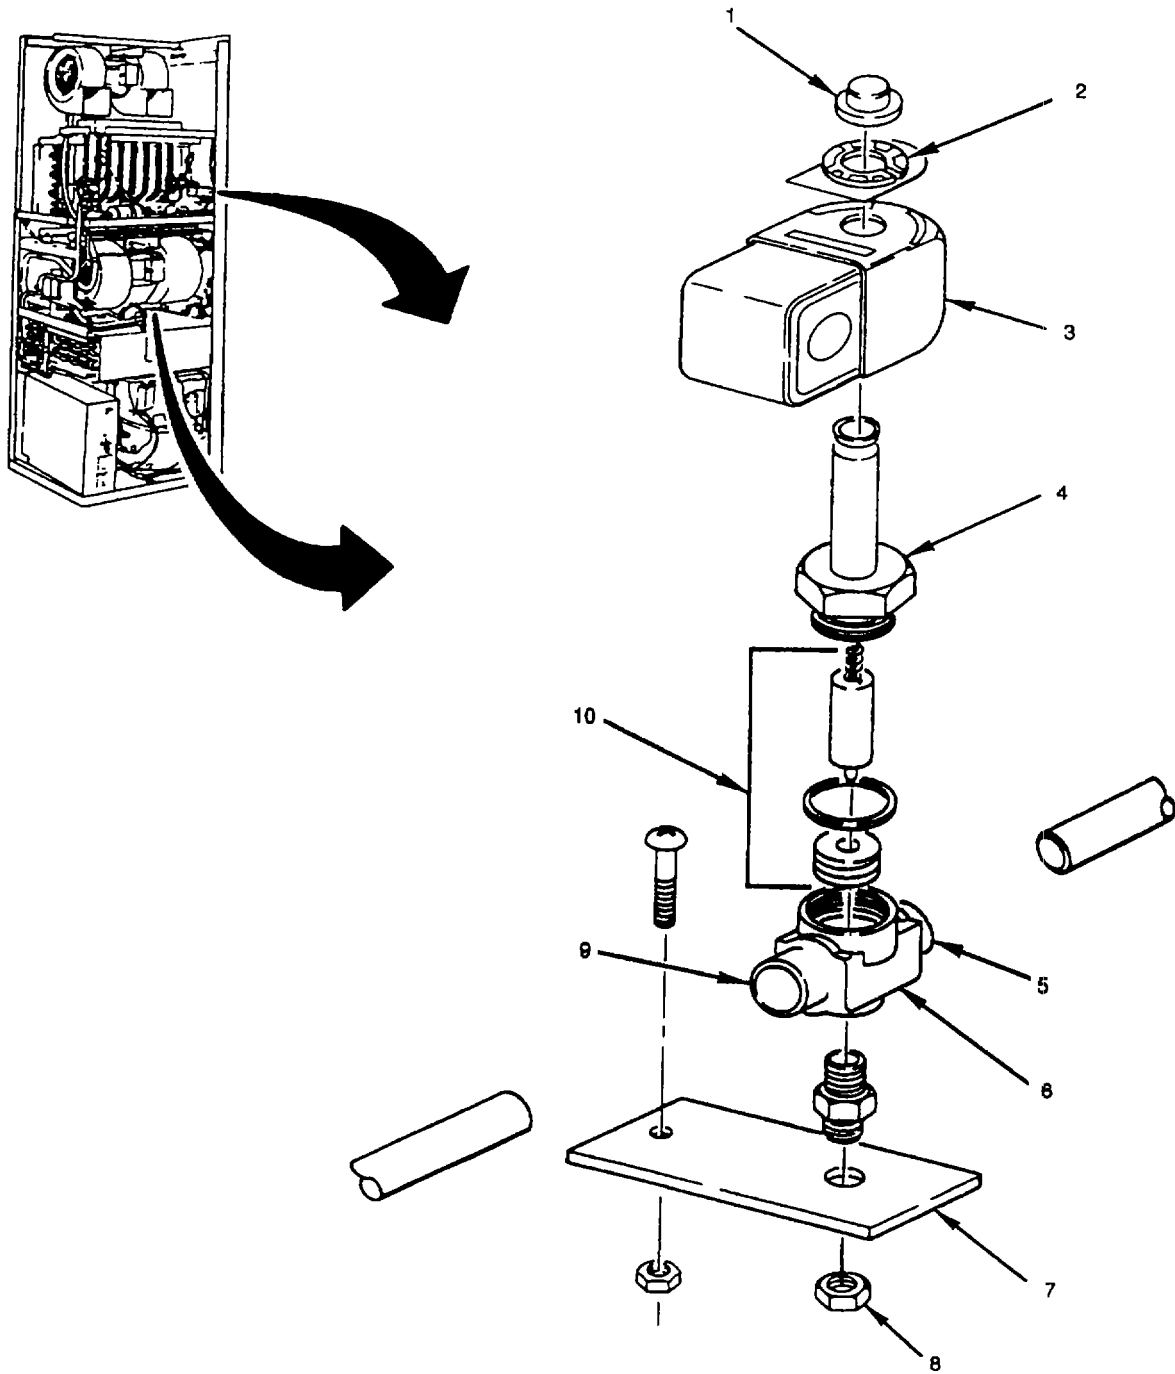

Figure 5-20. Solenoid Valves (L1 and L2)
- (1) Disconnect air conditioner input power at source.
- (2) Remove condenser fan section panel (paragraph 4.23)
- (3) Remove return air filter (paragraph 4.26); and (4) Pump down refrigerant system (paragraph 5.19).
- a. Check for damaged parts of frayed wires (see fig. 5-20).